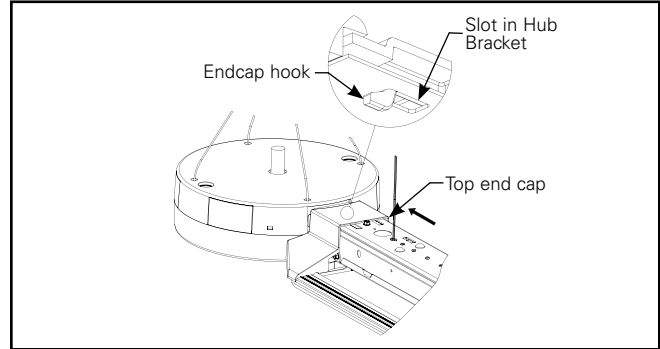

Figure 12.2.
- B. Slide end cap towards hub to hook with slot provided in hub bracket (Figure 12.2).